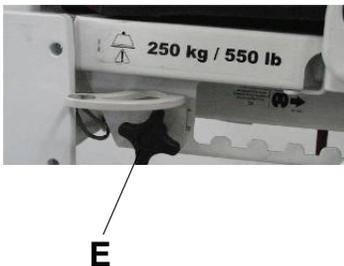

Figure 88: Installing the screw knob
2. Install the screw knob onto the bracket back (E) (Figure 88 on page 97).